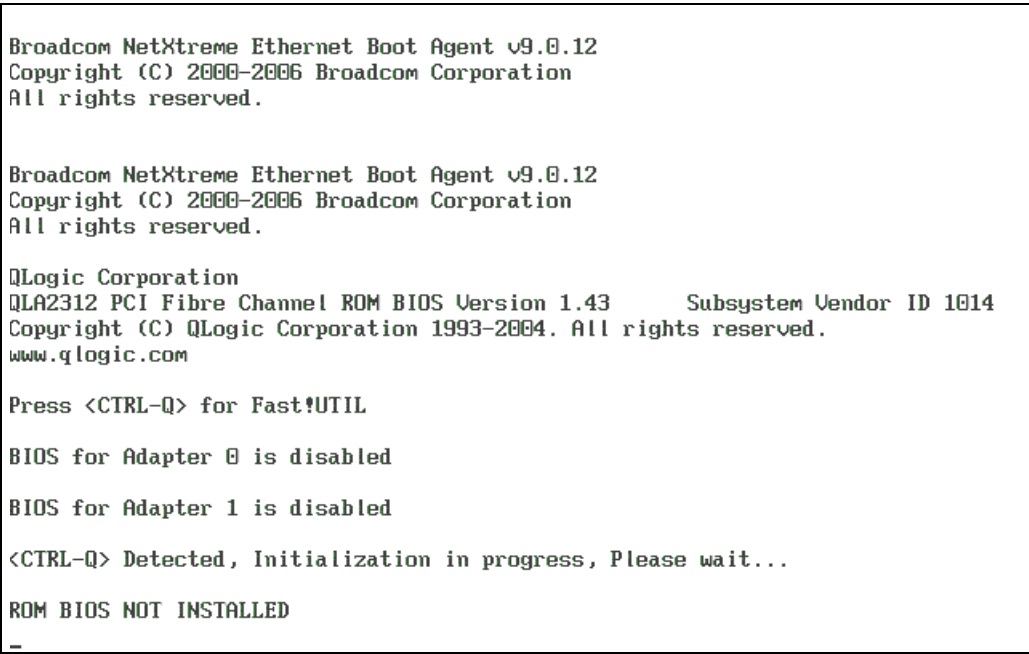

Figure 5-8 Invoke FC HBA BIOS
6. Press Ctrl+Q to enter the BIOS configuration utility, as shown in Figure 5-8.